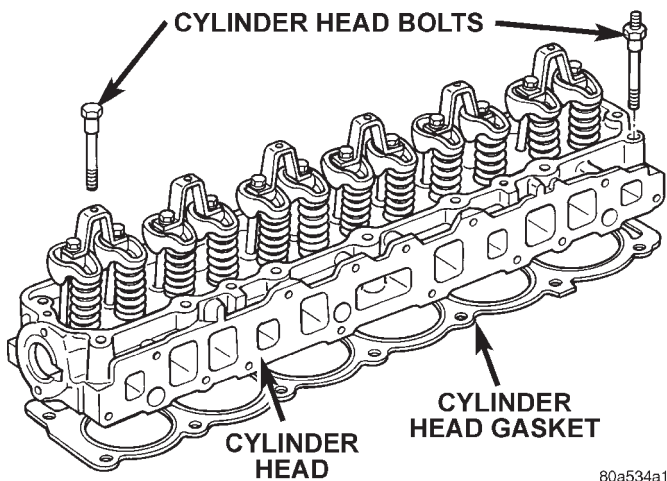

Fig. 35 Engine Cylinder Head Assembly
(6) Remove the push rods. **Retain the push rods, bridges, pivots and rocker arms in the same order as removed.**
(7) Loosen the accessory drive belt at the power steering pump, if equipped or at the idler pulley (refer to Group 7, Cooling System for the proper procedure).
(8) If equipped with air conditioning, remove the air conditioning compressor, (refer to Group 24, Heating and Air Conditioning).
(9) If equipped, disconnect the power steering pump bracket. Set the pump and bracket aside. **DO NOT** disconnect the hoses.
(10) Perform the Fuel System Pressure Release procedure (refer to Group 14, Fuel System).
(11) Remove the fuel supply line. Refer to Quick Connect Fittings in Group 14, Fuel Systems.
(12) Remove the intake and engine exhaust manifolds from the engine cylinder head (refer to Group 11, Exhaust System and Intake Manifold for the proper procedures).
(13) Disconnect the ignition wires and remove the spark plugs.
(14) Disconnect the temperature sending unit wire connector.
(15) Remove the ignition coil and bracket assembly.
(16) Remove the engine cylinder head bolts. Bolt No.14 cannot be removed until the head is moved forward (Fig. 35). Pull bolt No.14 out as far as it will go and then suspend the bolt in this position (tape around the bolt).
(17) Remove the engine cylinder head and gasket (Fig. 35).
(18) If this was the first time the bolts were removed, put a paint dab on the top of the bolt. If the bolts have a paint dab on the top of the bolt or it isn't known if they were used before, discard the bolts.